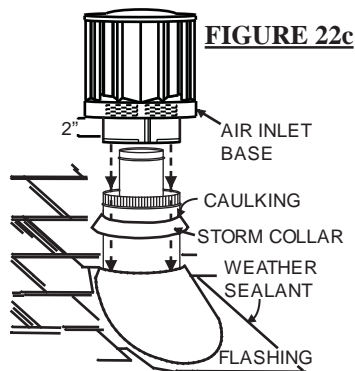

FIGURE 22c
7. Aligning the seams of the terminal and air terminal connector, place the terminal over the air terminal connector making sure the liner goes into the hole in the terminal. Secure with the three screws provided. **Figure 22c**